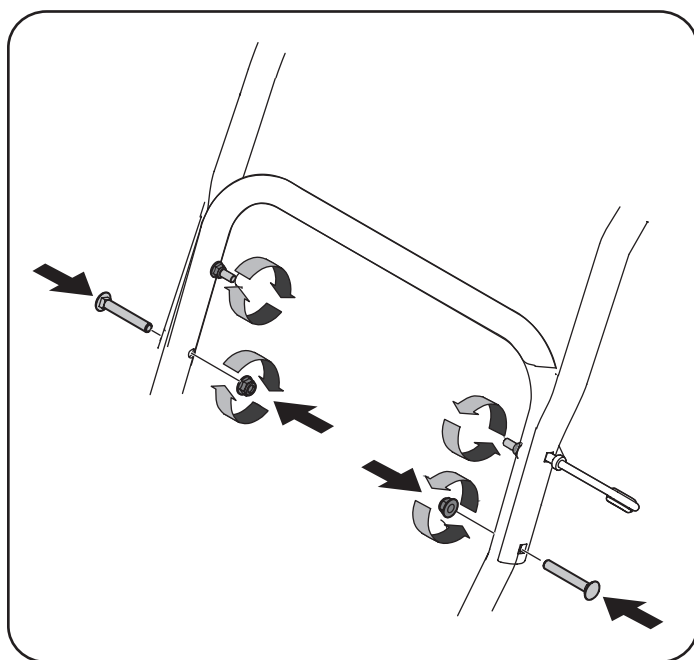

Figure 3
- d. Attach the two carriage screws and lock nuts removed in Step a. Finish securing the handle by tightening the top two lock nuts loosened in Step a. See Figure 3. Remove and discard any rubber bands, if present. They are for packaging purposes only.